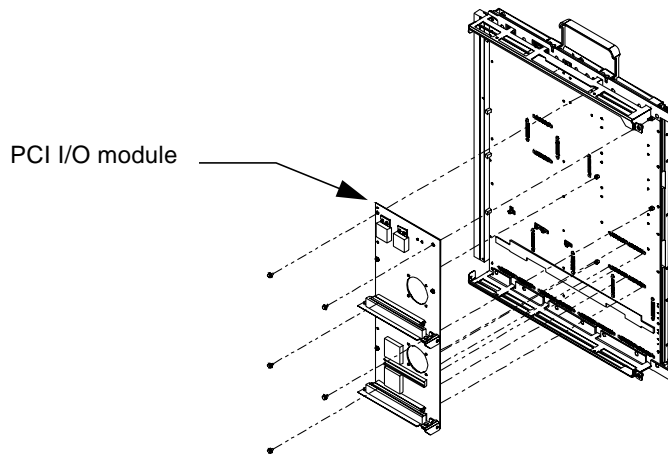

FIGURE 13 PCI I/O Module Installation
2. Align the PCI I/O module compression connectors to the system board compression connector locations (FIGURE 13 on page 13).